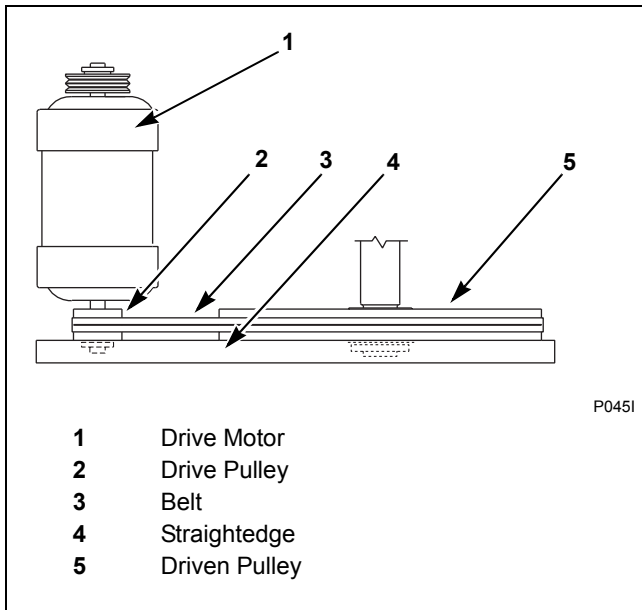

Figure 42
- c. Verify that V-belts are properly aligned by checking pulley alignment. Place a straightedge across both pulley faces. The straightedge should make contact with the pulleys in four places. Refer to *Figure 42*.